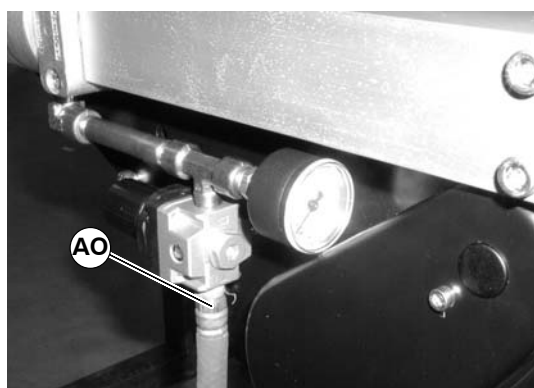

Figure 44
1. Remove air supply and remove hose (AO of Figure 44) from center drive.